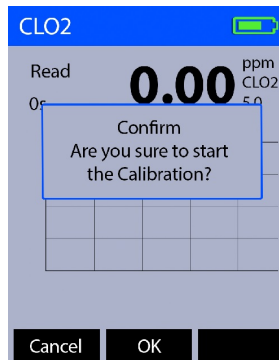

Figure 14.
6. Press **Calib** () to continue with the entered concentration value. The display updates as shown in Figure 14.